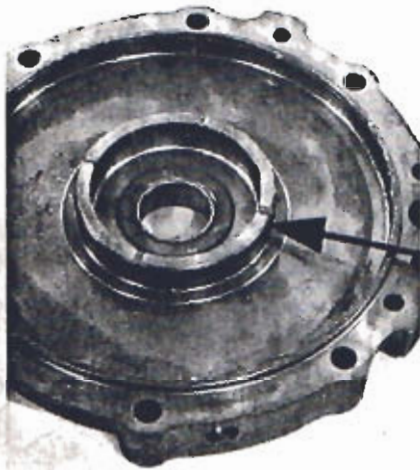
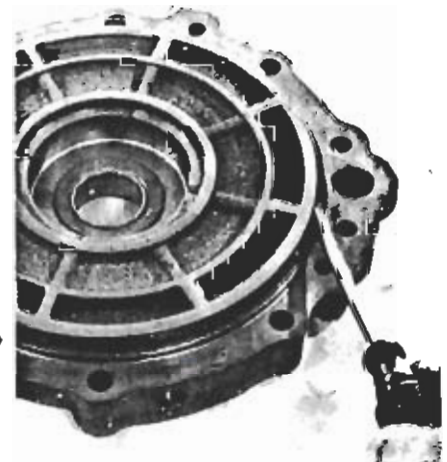

Figure 26 Assemble sealing ring in hub groove
Figure 27 Assemble piston in cylinder
**STEP 36** Assemble clutch sealing ring (87) in adapter groove, figure 26.
**STEP 37** Assemble a clutch seal ring (85) in reverse clutch piston (84) groove.
**STEP 38** Lubricate sealing rings and assemble piston into adapter. A smooth screwdriver may be used to help start sealing rings into cylinder bore, figure 27.